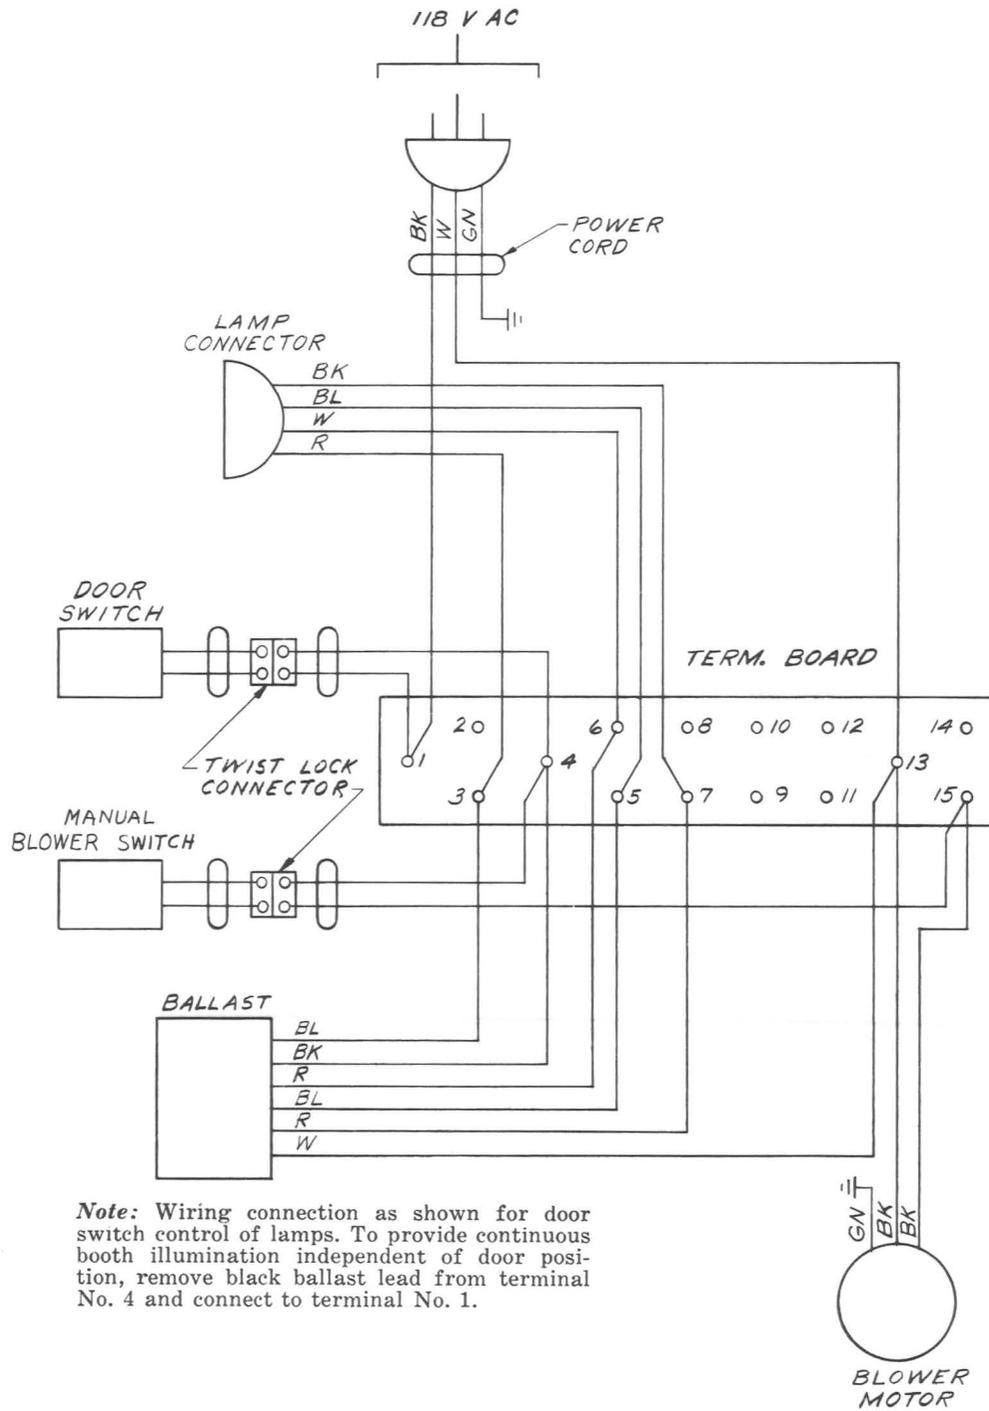

Fig. 2 - KS-19207, List 1 Light and Blower Unit
3.04 Internal electrical wiring can be checked on the terminal board located on ceiling above the light fixture (Fig. 2).
3.05 Booth is normally wired for door switch control of lamps. For continuous illumination, see note on Fig. 2.